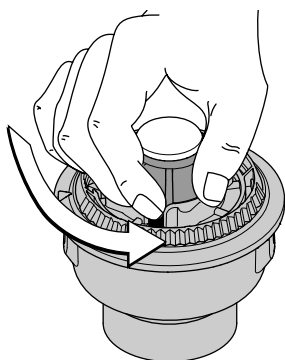

Fig. 22
1. Hold the outer spool, and unscrew the bump knob counterclockwise (Fig. 22).